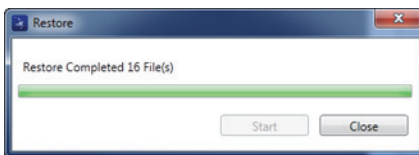

Figure 6-36 The Restore dialog box (complete)
6. When the restore process has been completed, click **Close** (see Figure 6-36 on page 333).